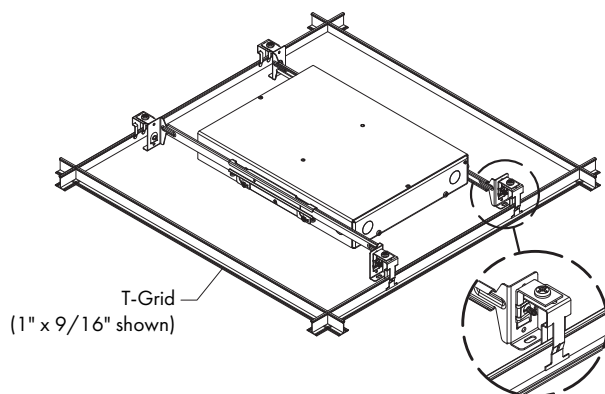

FIG 5.5 Attach to T-Grid
STEP 4 Determine cut-out location in Ceiling Tile and ensure sufficient clearance for housing installation. Locate & cut hole in Ceiling Tile (refer to Trim Types and hole sizes specified on **Pages 7-8**). Install Ceiling Tile into T-Grid - **FIG 5.5**.
STEP 5 Attach fixture to T-Grid and adjust horizontal fixture position so Housing aperture is centered with Ceiling Tile opening. Lock fixture into place by tightening the Bar Hanger Lock Screws - **FIG 5.5**.